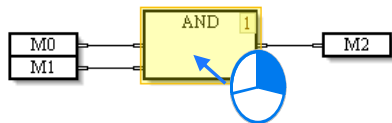

Figure 12-38 Right-clicking an object
(1) The users have to right-click an object, as shown in figure 12-38.